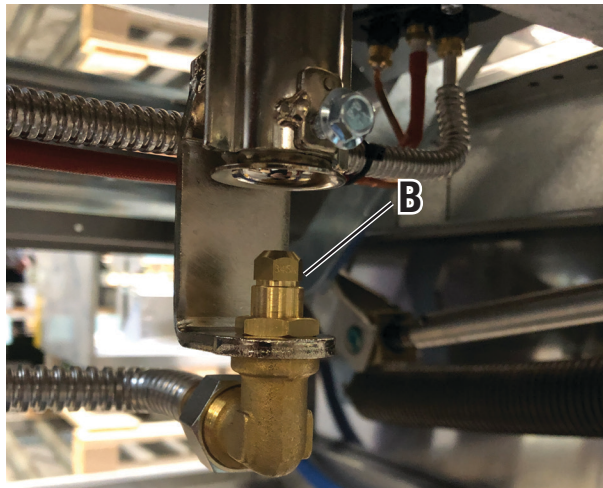
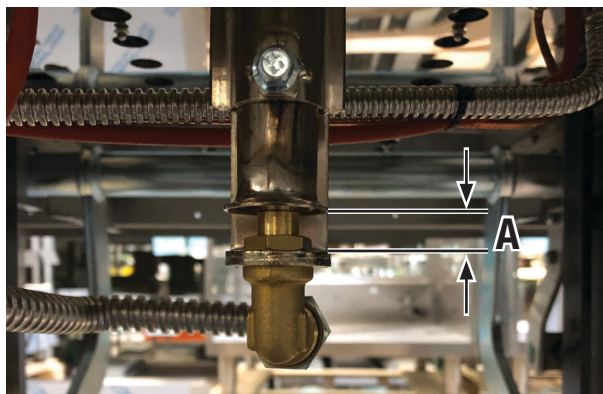

Fig.5.
Fig.6.
3. Unscrew the nozzle 'B' (Fig.6) and replace it with the one for the gas type selected based on the indications of the technical data plate (the nozzles are marked in hundredths of a millimetre)
Unscrew the nozzle "A" (Fig.5) and install the one for the type of gas, checking the "A" (Fig.6) distance for air. Please refer to page 8 / 2.1.3.